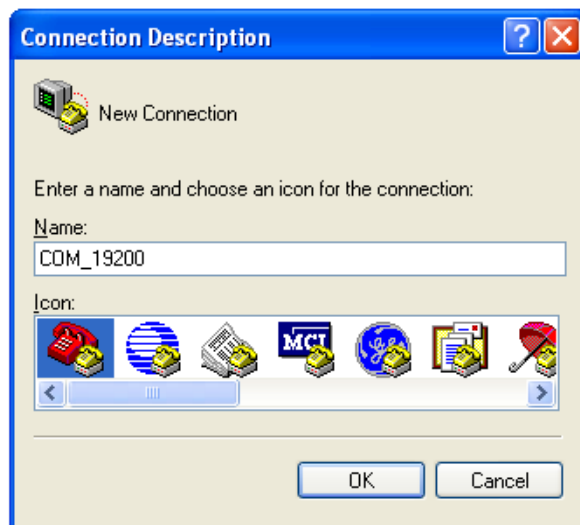

Figure E-3. HyperTerminal startup
2. The HyperTerminal opens as shown in Figure E-3. Enter the name of the connection and click on the OK button.